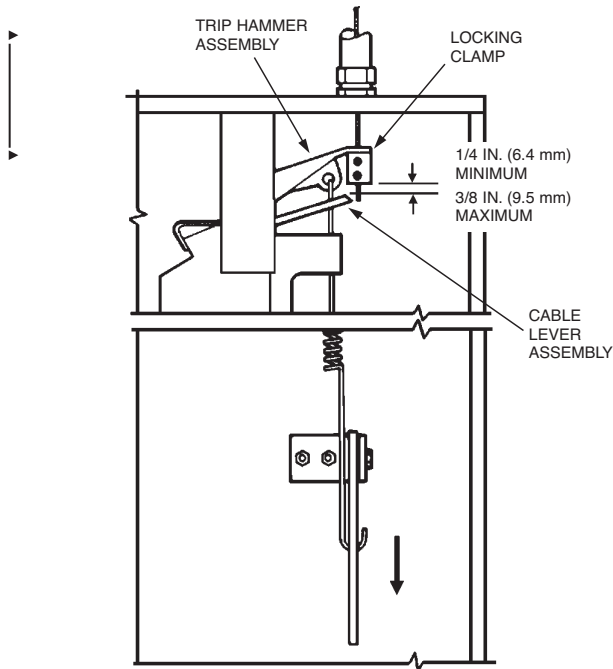

FIGURE 7
- ▶ 28. Inspect the base of the wire rope locking clamp to make certain that there is a minimum of 1/4 in. (6.4 mm) and a maximum of 3/8 in. (9.5 mm) clearance between the base of the trip hammer locking clamp assembly and the cable lever assembly. See Figure 7.